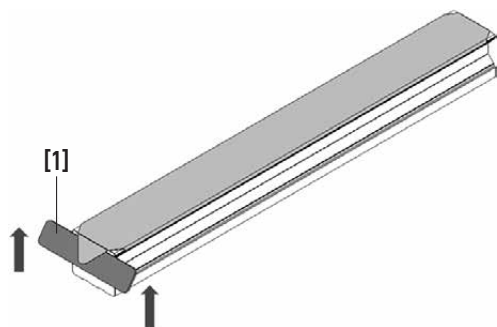

Fig. 4.17 Removal of cover strip
- Use the removing tool [1] as shown in Fig. 4.17 to lift the cover strip from below at the bent end of the strip at the front side of the profile rail. Then carefully peel it off over the entire length, without bending it.